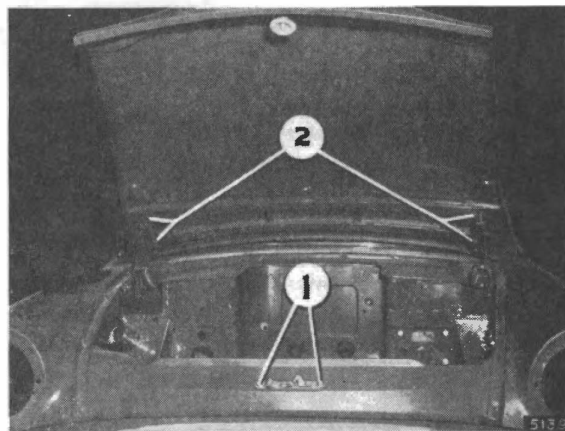

Fig. 26. Bonnet and lock attachment points (Rapier)
Rapier (Fig. 26)**
Take out the two bolts with their spring and flat washers (1), (Fig. 26).